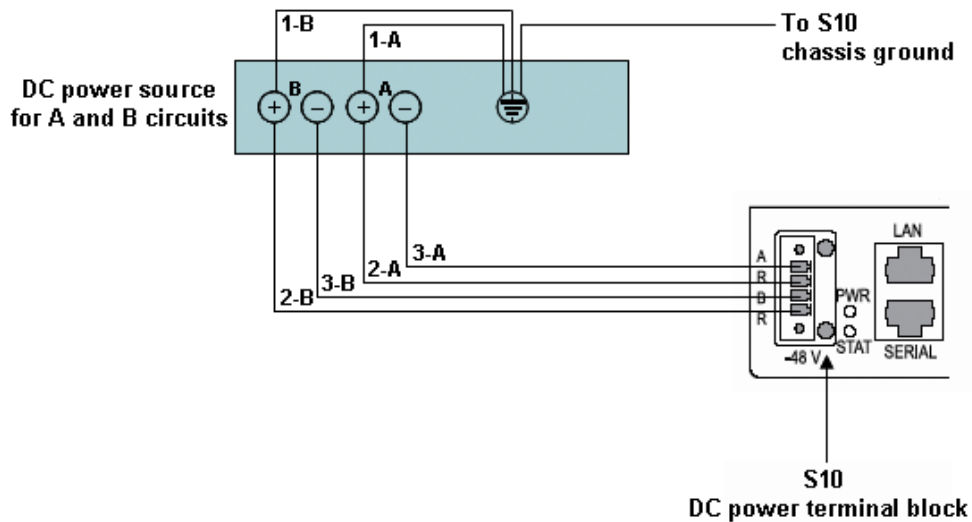

Figure 13. Wiring the OS-10 System for DC Power
To connect DC power to the OS-10 system, see Figure 13 and follow these steps:
- Figure 13 shows the terminal block for the DC power supply on the OS-10 system. Wire the DC power supply as shown.
4. Connect the positive lead of this circuit to ground. See wiring 1-A in Figure 13.
Note As an option, you may choose another common grounding point other than the one shown in Figure 13. The choice depends on the grounding practice for your particular location. Figure 13 shows the grounding point colocated with the DC circuit for “A” power.
6. Connect the negative lead of the circuit to the “A” power input lead on the OS-10 system terminal block. See wiring 3-A on figure 13 on page 36.
7. Connect the positive lead of this circuit to ground. See wiring 1-B on figure 13 on page 36.
Note As an option, you may choose another common grounding point other than the oneshown in Figure 13. The choice depends on the grounding practice for your particular location. Figure 13 shows the grounding point colocated with the DC circuit for “B” power.
8. Connect the positive lead of the circuit to the return direction for “B” power on the OS-10 Series system terminal block. See wiring 2-B on Figure 13.
9. Connect the negative lead of the circuit to the “B” power input lead on the OS-10 system terminal block. See wiring 3-B on figure 13 on page 36.